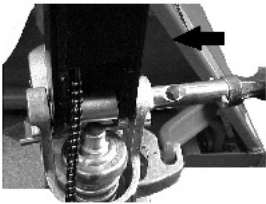

Figure 2
2. Insert the draw-bar into the pump piston. Use a hammer to insert the axle with hole into the hydraulic pump and draw-bar from right to left (See Figure 2).